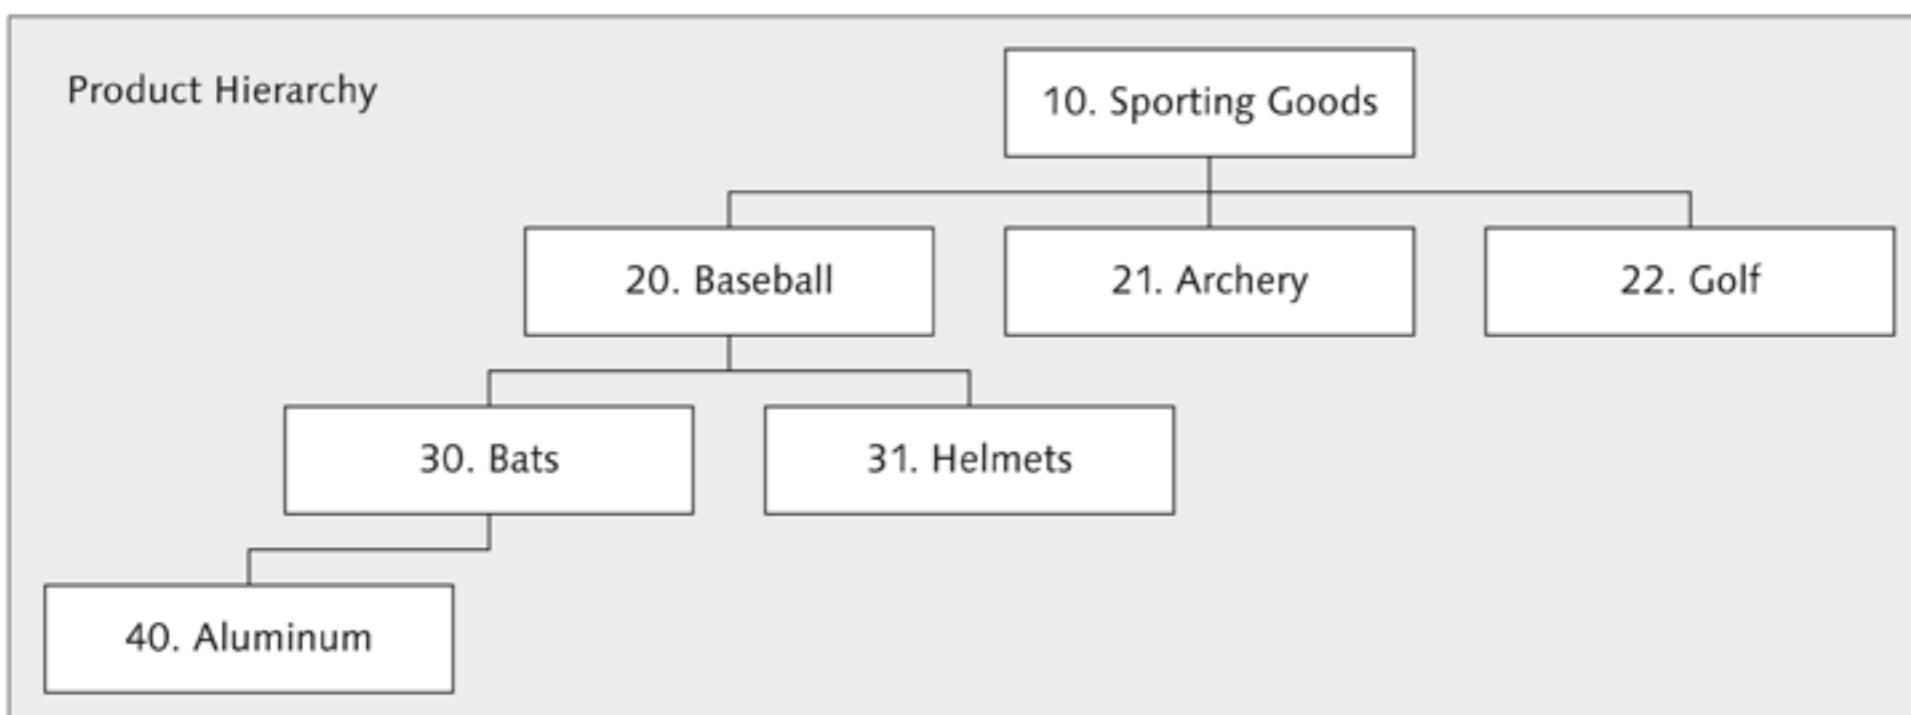

Figure 2.5 Product Hierarchy Sample Structure
- ▶ **Product Hierarchy and Material Group:** These two fields help you classify your products. If your company, for example, sells sporting goods, then you might have a materials group that segregates golf products from clothing, from baseball products, and so on. The material group uses nine characters, and it's mostly used by Materials Management. The hierarchy does a similar classification but can be more granular. You could have several levels that would allow you to build a product family tree. Product hierarchy having 18 characters available is mostly defined for sales functionality. Other important features of the material group and product hierarchy are that they are used by SAP ERP Financials to derive special postings and profitability analysis. They are also used for special pricing, such as promotions and offers. As you can see in Figure 2.5, an aluminum bat would be assigned a hierarchy value of 10203040, showing that it belongs to the Bat family under the Baseball Products family that also belongs to the Sporting Goods family.